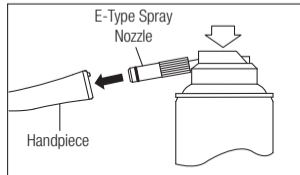

Fig. 6
- 2) Insert the Spray Nozzle into the rear of the handpiece. Hold the handpiece and spray for approximately 2-3 seconds. Apply lubricant until it expels from the handpiece head for at least 2 seconds (Fig. 6).
- 3) Lubricate handpiece by using NSK PANA SPRAY Plus / PANA SPRAY (Fig. 6) or NSK automatic handpiece cleaning and lubrication system.